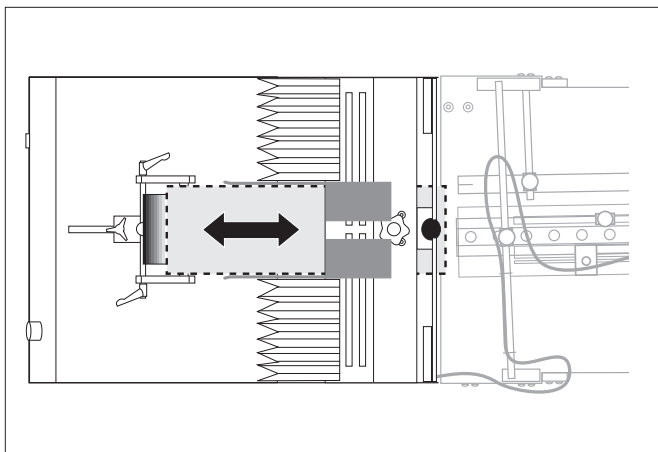

Figure 4. Use an Envelope to Set the Gap
2. Test the top piece for clearance. Grasp the envelope with two hands and slide it front-to-back under the gate assembly (Figure 4). A proper adjustment allows a slight amount of drag on the top of the envelope.